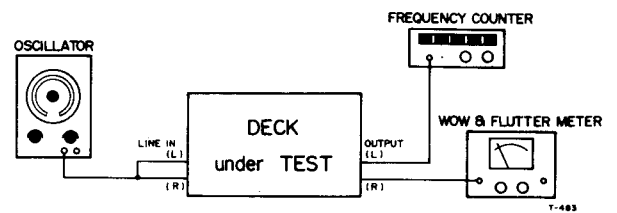

Fig. 2-9
1. Connect a frequency counter to either OUTPUT jack. (See Fig. 2-9).
(See Fig. 2-9)
1. Connect a wow-and-flutter meter to the deck as shown in Fig. 2-9.